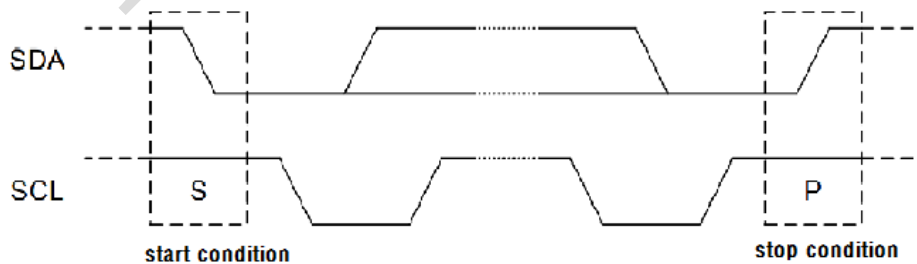

Figure 13. Definition of STRAT and STOP Condition
Both SDA and SCL lines remain HIGH when the bus is not busy. A HIGH-to-LOW transition of SDA, while SCL is HIGH is defined as the START condition (S). A LOW-to-HIGH transition of SDA while SCL is HIGH is defined as the STOP condition (P). The START and STOP conditions are illustrated in Figure 13.